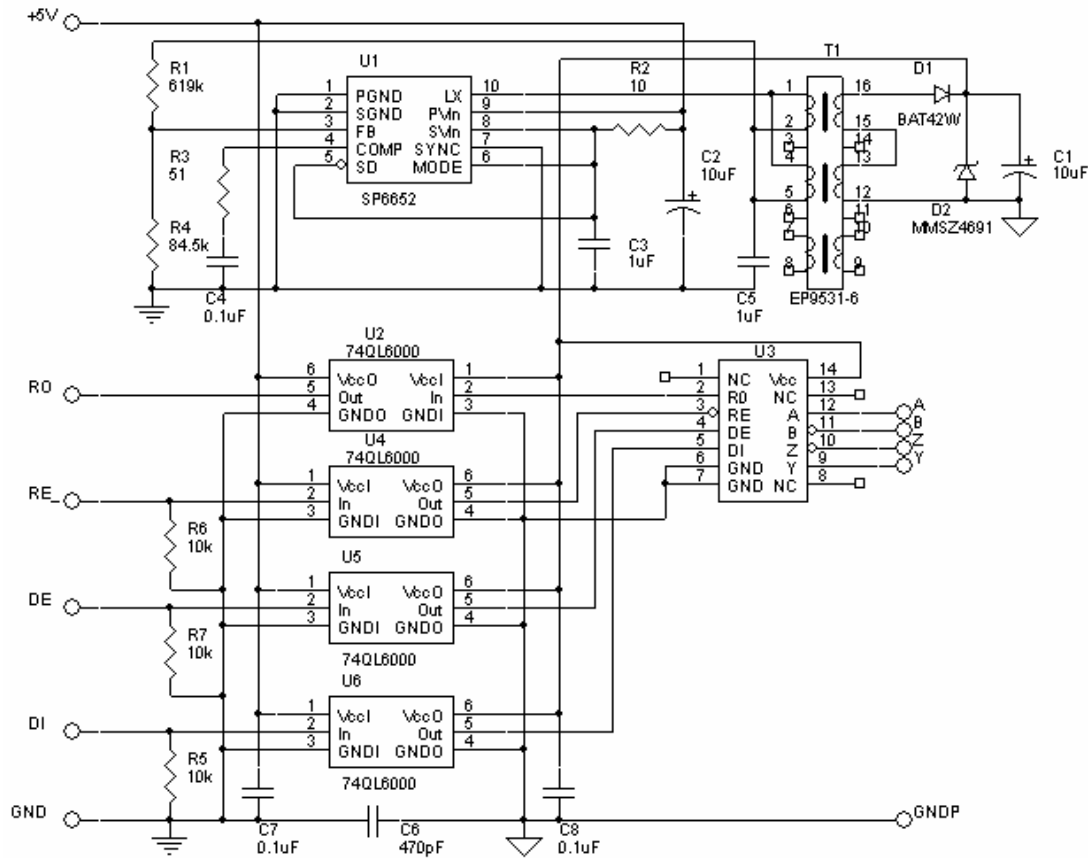

Figure 2. Full-duplex interface schematic diagram for 15Mbps data rate with additional driver/receiver tri-state enable lines
*) SP491, SP1491, and SP1491E have additional driver/receiver tri-state enable lines and should be connected according schematic diagram in Figure 2.
The schematic of the interface in Figure 2 is identical to the previous example except connection of the driver and two additional optocouplers that allow transmit driver/receiver enable signals into secondary stage of the driver.